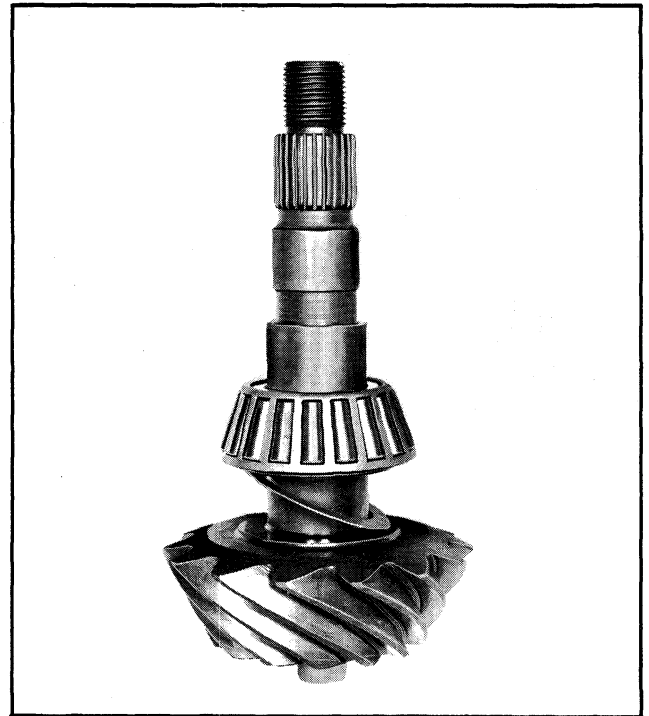

Fig. 4-38 Pinion Shim
NOTE: Twenty (20) shims are available in increments of (.001") one thousandths from .020 to .039, Fig. 4-38. If a shim from .040 to .050 is needed use two shims.